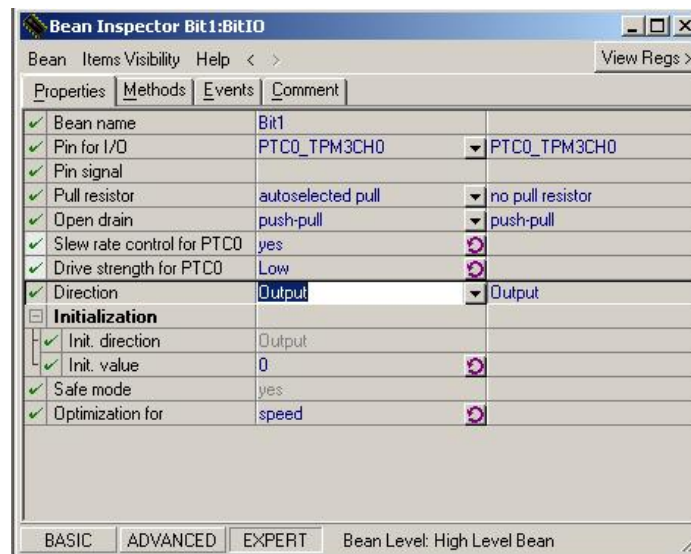

Figure 32. Bean Inspector Window - BitIO Configuration on LED_ADC Project
9. Double-click the BitIO bean, and the Bean Inspector window activates (Figure 32).